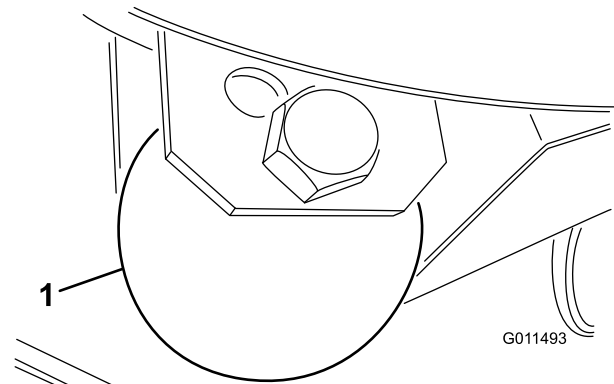

Figure 26
1. Remove the bolt and nut securing the gage wheel to the cutting unit brackets (Figure 26).